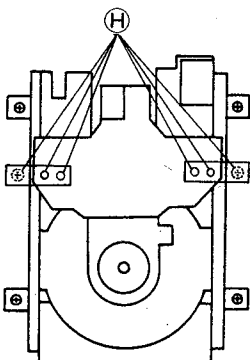

Figure 6
(1-2) Remove the six (H) screws fastening the clamper, the spring, and finally the clamper. (Figure 6)